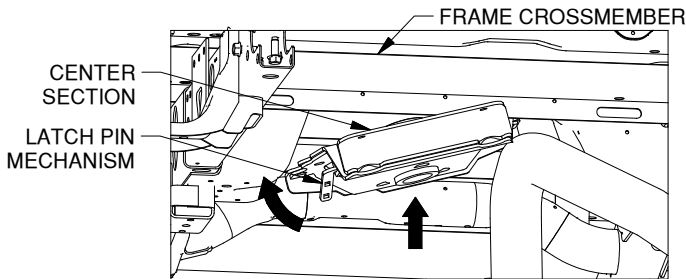

Figure B5: Looking from rear towards cab.
3. **Install the center section.** With the latch pin mechanism on the drivers side, raise the center section into place as shown, see figure B5. In order to clear structures under the truck bed, the center will have to be lifted into place on an angle over the exhaust, then positioned directly under the frame cross member so that the raised portion of the center can be pushed straight up through the hole in the frame cross member, and through the hole in the plastic spacer block. Having assistance in the bed to guide the top of the center section is recommended. Line the 6 holes in the center section up with the frame holes and the holes in the threaded blocks. Thread a 5/8 flange head bolt into each hole. Next, run the bolts in until they are about 1/16" from being tight.